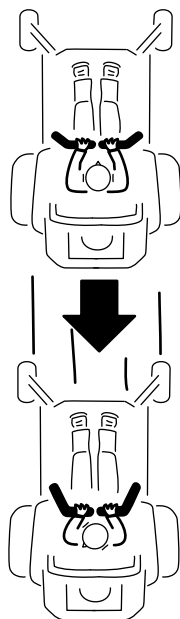

Figure 25
- 2. To go backward, slowly pull the motion-control levers rearward (Figure 25).